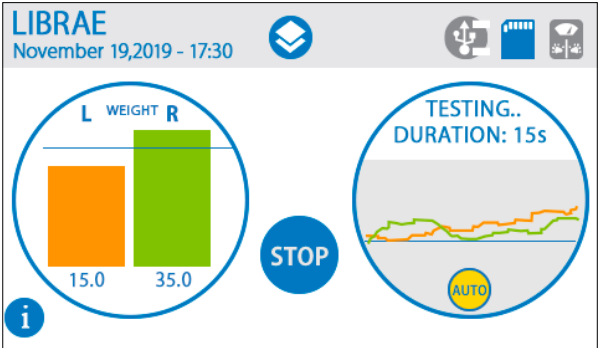

Figure 4.6.4 - Autostart is waiting for the weight stabilization. AUTO icon is YELLOW.
5. Put the animal inside the restrainer (Figure 4.6.4);